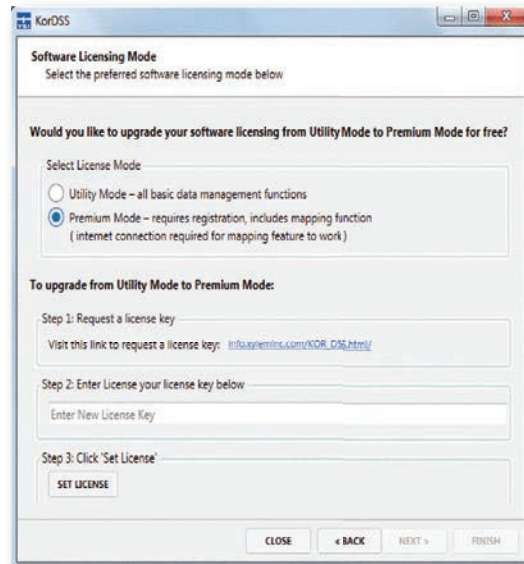

Figure 89 Software licensing mode screen
2. On the Software Licensing Mode screen, select **Premium Mode** if you would like to view sampling locations on a map (internet connection required) (Figure 89). To upgrade to Premium Mode for free, follow the link, register your ProDSS, then use the code sent to you via email to upgrade to the Premium Mode. You can upgrade to Premium Mode at any time by going to the File tab in KorDSS.